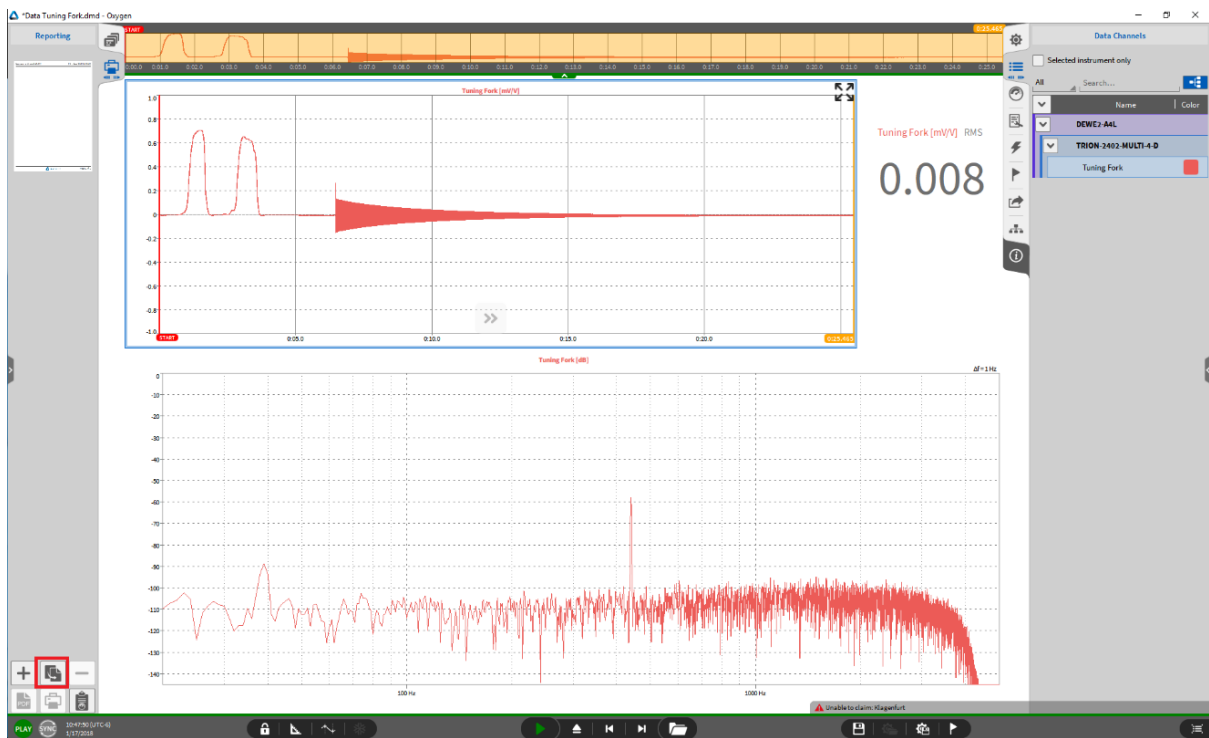
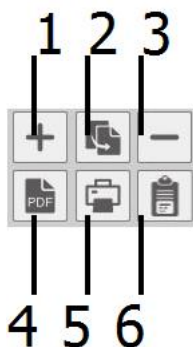

Fig. 14.4: Click the Copy button
Fig. 14.10: Push buttons in the *Reporting* Menu
- Click the copy button at the lower end of the Reporting menu (see Fig. 14.4 or ② in Fig. 14.10)
- The buttons on the lower end of the *Reporting* Menu (see Fig. 14.10) have the following functionalities: